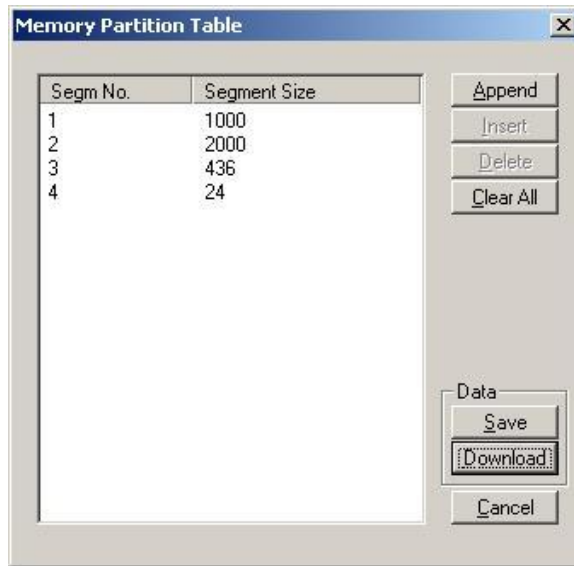
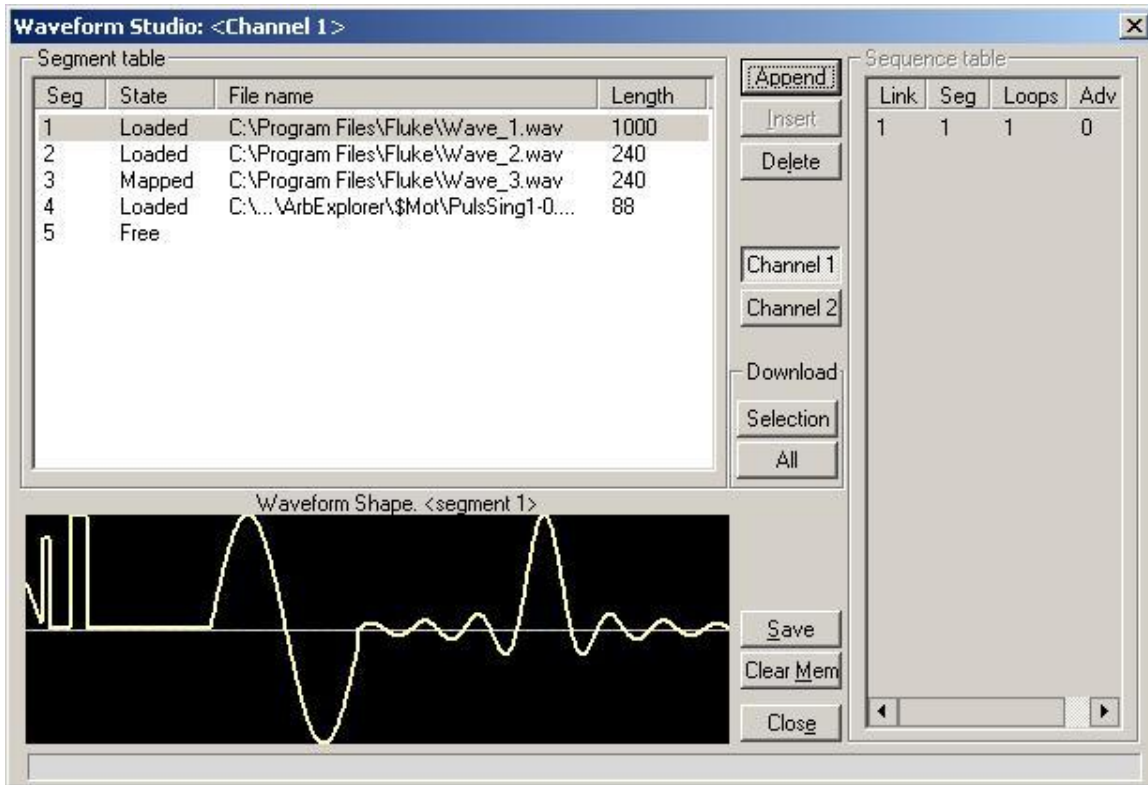

Figure 4-6, The Memory Partition Table
Figure 4-7, The Waveform Studio
**Memory Management** The memory management group provides access to the memory partition and waveform studio screens. The Waveform Partition button opens a screen as shown in Figure 4-6 and the Waveform Studio button opens a screen as shown in Figure 4-7. Information how to use these screens is given in the following paragraphs.
Point and click on the Memory Partition. A dialog box as shown in Figure 4-6 will pop up.
The Waveform Studio, as shown in Figure 4-7 has two parts: 1) Segment Table and 2) Sequence Table. The purpose of the waveform studio is to provide access to waveform files that are already resident in the system. These files can be delegated to various segments and later be used as individual waveforms or combined into complex sequences.